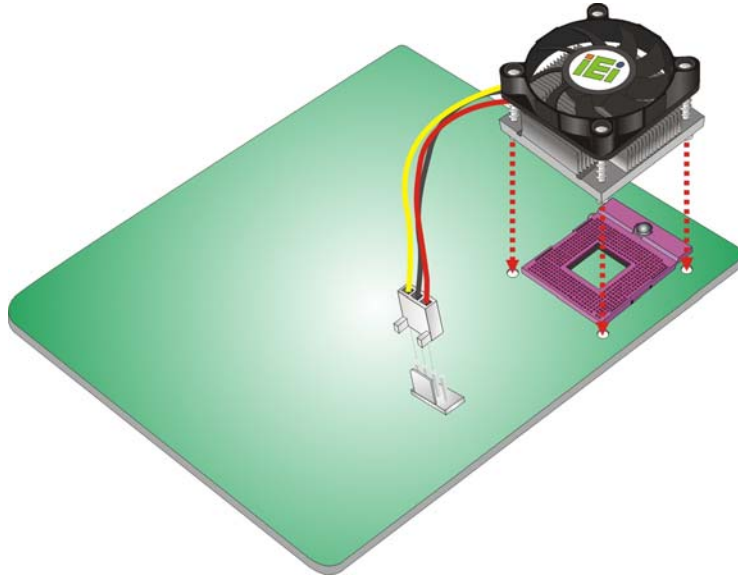

Figure 4-5: Align the Cooling Kit
- Step 3: Properly align the cooling kit.** Line up the four screws with the screw holes on the support bracket below the board (**Figure 4-5**).